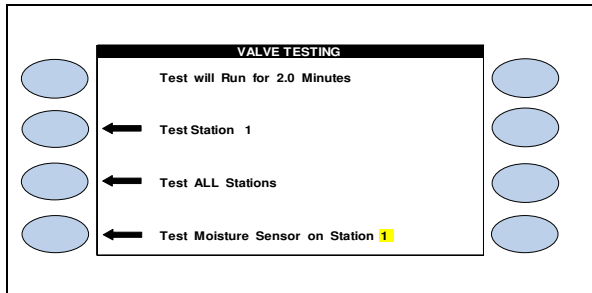

Figure 16
20.  Press the blue **ARROW** keys to move the cursor to the **TEST MOISTURE SENSOR ON STATION** Entry (Figure 16).